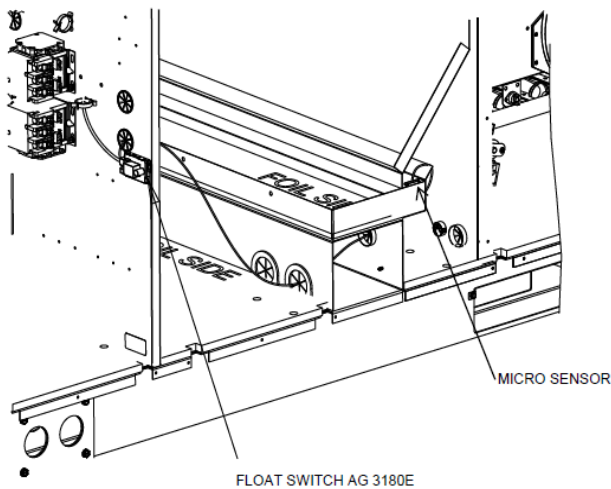

Figure 23
7. Route the 2 way connector from the control box through the bushing underneath the coil support as shown in Figure 23.